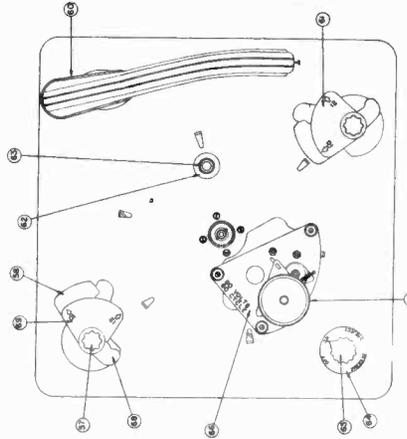
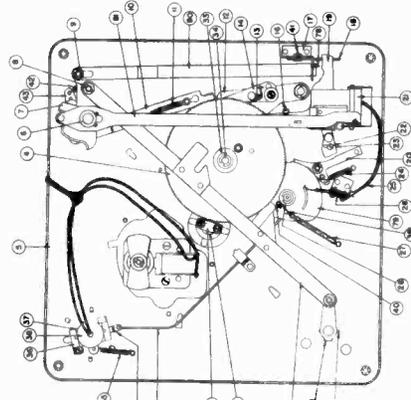
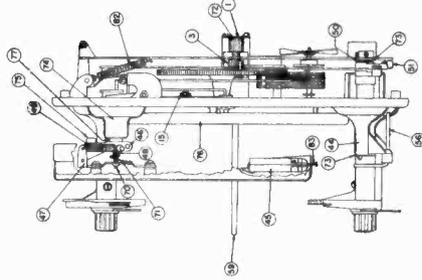

Figure 11
Figure 12
Figure 13
The Record Changer is started by turning the switch control knob, (Item 65, Fig. 11) to "ON", this starts the motor and moves trip rod (Item 32, Fig. 12), which rotates trip lever assembly (Item 20, Fig. 12), causing it to disengage from Engagement Clutch Cam, (Item 79, Fig. 12). The Engagement Clutch Cam will then rotate due to tension from spring, (Item 27, Fig. 12). This causes it to contact the pin on the top side of Drive Gear Assembly, (Item 4, Fig. 12) as it starts to rotate. Item 20, moves the Drive Shaft Crank Assembly, (Item 31, Fig. 12), to the position shown in Fig. 12. Also the tone arm reset link (Item 80, Fig. 12), has moved to where it has released the latch, (Item 18, Fig. 12), and carried the tone arm to its extreme outward position. The Tone Arm lifter link (Item 81, Fig. 12), has raised the tone arm to its extreme height, by means of the Lifter Plate Assembly, (Item 21, Fig. 12). The tone arm is kept from "floating" free by the friction of the Tone Arm Brake Spring which also compresses the tone arm booster spring, (Item 13, Fig. 12) due to its very light tension.
The Drive Gear Assembly (Item 4, Fig. 12) continues to rotate which causes the top pin to disengage from the Automatic Engagement Clutch Cam which is moved back to latch with the tone arm trip lever, and the lower pin to engage the drive link assembly, moving it back to its initial position. This swings in the tone arm to either the 10-inch or 12-inch record playing position and the top pin disengages from the Drive Gear Assembly. The Brake Spring allowing the Tone Arm Booster Spring to act.
point. If the clearance is greater, it would be due to the pressure on the Spring Washer (Item 50, Fig. 13) being too great. This will prevent the Tone Arm Litter Asses Spring (Item 52, Fig. 13) from returning the Tone Arm Litter Link Assembly (Item 81, Fig. 2) to its normal position. To relieve the pressure on the Spring Washer, loosen the Selector Shaft Collar (Item 6, Fig. 11) slightly.
1. Swing tone arm outward until tone arm lever assembly (Item 19, Fig. 12) latches with tone arm latch lever (Item 18, Fig. 12) which is held to the tone arm shaft (Item 77, Fig. 13) by two set screws.
2. Make sure these set screws are tight and that there is a slight play between the tone arm lever assembly and the panel (Item 5, Fig. 12). This will give proper clearance at ball race assembly (Item 74, Fig. 13).
3. The tone arm lever assembly (Item 19, Fig. 12) is held against tone arm latch lever (Item 18, Fig. 12) by the tension of tone arm locator lever spring (Item 16, Fig. 12).
4. Next loosen the clamping screw in the Stylus Bracket Assembly (Item 46, Fig. 13).
5. Now move tone arm (Item 60, Fig. 11) until its outside edge is $\frac{3}{16}$ " from the outside edge of the panel (Item 5, Fig. 12) and re-tighten screw securely.
If the Record Changer does not go into its changing cycle when the needle has reached the above-mentioned distance, the Tone Arm Trip Lever Shoe (Item 23, Fig. 12), should be moved toward the outside edge of the panel. To do this, it is necessary to loosen the thumb nut (Item 22, Fig. 12), and then retighten after adjustment has been made.
2. Check Trip Rod (Item 32, Fig. 12) to make sure it releases Trip Lever Assembly (Item 20, Fig. 12), from Engagement Clutch Cam Assembly (Item 79, Fig. 12), when Switch Knob is being turned on. If Trip Lever Assembly is not released, Trip rod should be shortened by bending until Trip Lever clears Engagement Clutch Cam Assembly, when Switch Knob is turned.
3. Make sure that Clutch Reset Pawl (Item 40, Fig. 12) clears Drive Link Assembly (Item 31, Fig. 12).
(A) Trip Lever Assembly (Item 20, Fig. 2) does not latch in Engagement Clutch Cam Assembly (Item 79, Fig. 12), which may be due to causes listed below:
1. Trip Rod (Item 32, Fig. 12), may be bent so that it is too short, holding Trip Lever Assembly from contacting Engagement Clutch Cam Assembly.
2. Springs (Item 24 or 35, Fig. 12) may be disconnected.
1. Mating switch (Item 26, Fig. 12), may be out of adjustment. The contacts of this switch should be open whenever its long blade is not resting on the shoe of the Engagement Clutch Cam Assembly (Item 79, Fig. 12). If the contacts remain closed after the long blade has left the shoe, they should be adjusted by bending until there is a separation of approximately $1/32$ ".
4. Set Rod (Item 56, Fig. 13), is operated by Selector Arm (Item 61, Fig. 11). The 12" Set Link (Item 10, Fig. 11), operates as a stop when Record Changer is set for 12" records. When Tone Arm Locator Assembly (Item 12, Fig. 11) contacts 12" Set Link the tone arm should be in the correct position to play a 12" record.
If at this point, the position of Tone Arm is incorrect, loosen the screw which holds the Tone Arm Locator Shoe 12" (Item 14, Fig. 11) and move in either direction as required and tighten screw.
- 3.—Note where needle contacts record. Correct contacting is about $1/8$ " from the outside edge of record. If contacting of needle is not correct as mentioned, loosen the screw which holds Tone Arm Locator Shoe 10" (Item 15, Fig. 13) and slide shoe in or out as required, then tighten screw.
Set the Record Changer for ten-inch records, turn Switch to "ON" and allow Record Changer to complete a changing cycle with no record on the turntable. The clearance between Turntable and the bottom surface of the Tone Arm should be approximately $1/16$ ". Usually this clearance can be obtained by adjusting the Tone Arm Adjustment Screw (Item 70, Fig. 13). It is well to check the following points before making any adjustment.
Check clearance between Roller (Item 51, Fig. 13), and Selector Crank Shaft Assembly (Item 7, Fig. 12). There should be approximately $1/32$ " clearance at this